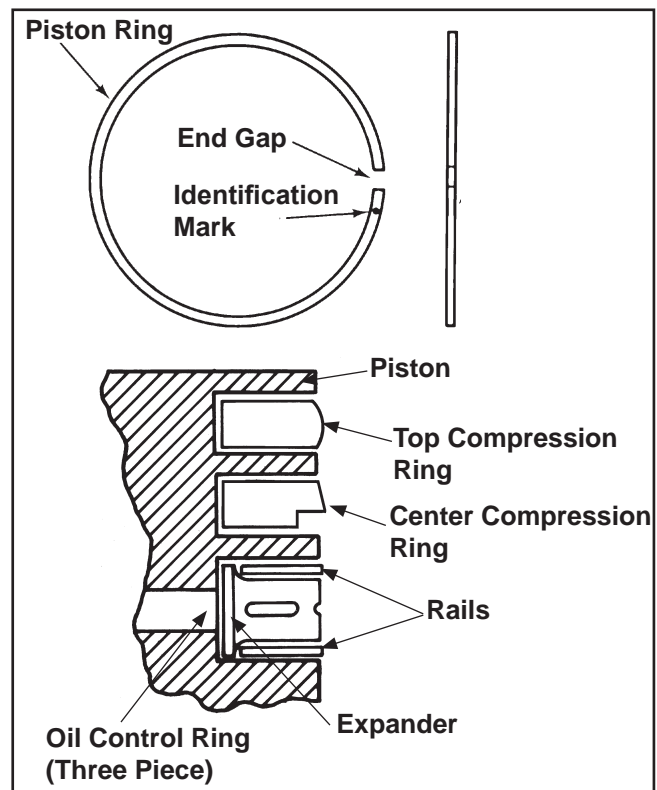

**Figure 9-14. Measuring Piston Ring Side Clearance.**
4. After installing the new compression (top and middle) rings on the piston, check piston-to-ring side clearance. The maximum recommended side clearance for each ring is **0.04 mm (0.0016 in.)**. If the side clearance is greater than specified, a new piston **must** be used. Refer to Figure 9-14.